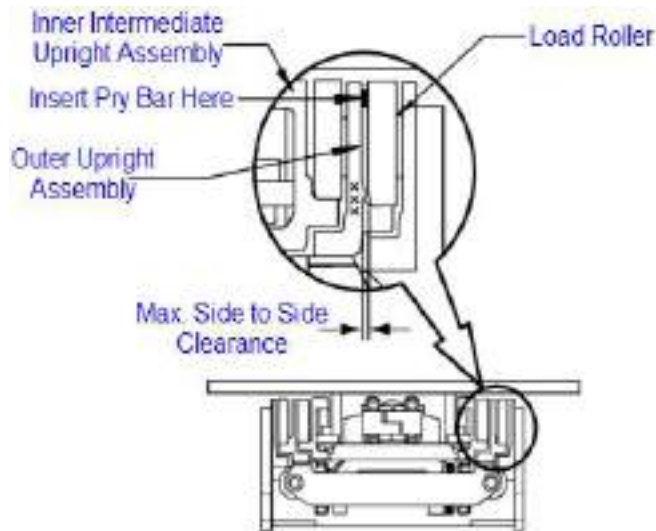

Figure 2-27: Load Roller Maintenance, Top View
2. To check the clearance, insert a pry bar between the upright and roller, and measure the clearance at the "XXX". **See Figure 2-27.**